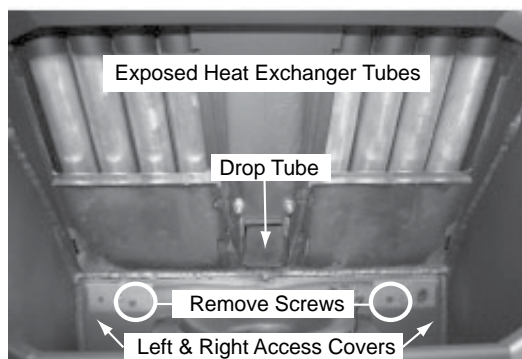

Figure 3.2 - Baffle Removed
1. Use a Shop Vac to vacuum any fly ash and soot from the heat exchanger tubes and firebox area. **Figure 3.2.**